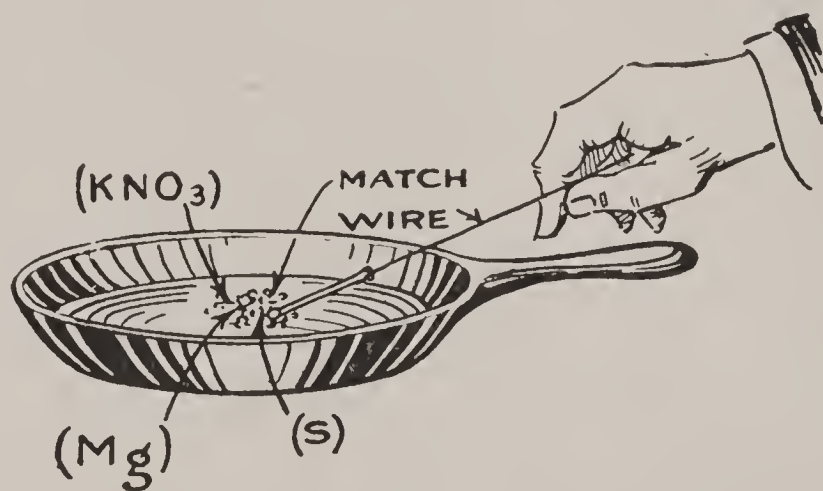

FIG. 168.—Lighting a Flash-Light.
each of potassium nitrate (KNO_3) and powdered magnesium (Mg) into an iron frying-pan and mix, but *do not rub or grind them*. This done, sprinkle $\frac{1}{2}$ teaspoonful of powdered sulphur (S) on the mixture and then light the sulphur (S) with a match fastened to a wire, as shown in Fig. 168. The burning sulphur (S) will soon ignite the potassium nitrate (KNO_3) and magnesium (Mg). They will then suddenly combine with a bright, dazzling, white flash.